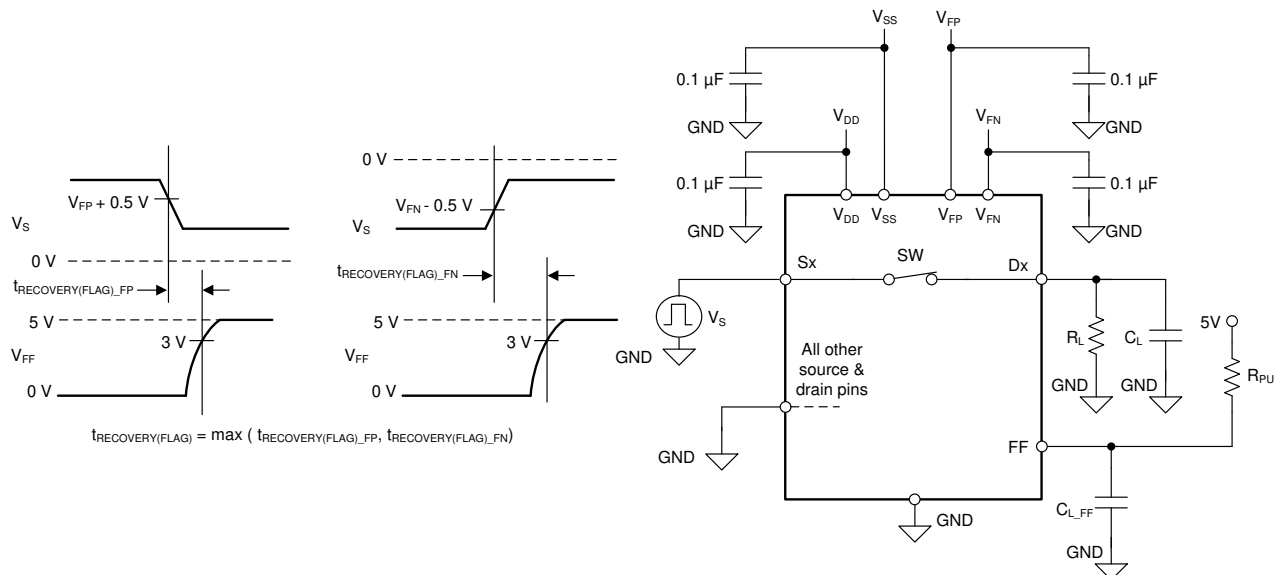

Figure 7-8. Fault Flag Recovery Time Measurement Setup
Fault flag recovery time ( $t_{\text{RECOVERY(FLAG)}}$ ) measures the delay between the source voltage falling from the overvoltage condition to below the fault supply voltage ( $V_{\text{FP}}$  or  $V_{\text{FN}}$ ) plus 0.5 V and the general fault flag (FF) pin to rise above 3 V with 5 V external pull-up. Figure 7-8 shows the setup used to measure  $t_{\text{RECOVERY(FLAG)}}$ .